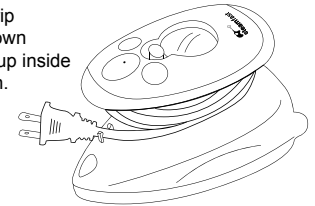

FIGURE 5
1. Turn Temperature Control Dial to "off" (O) position. Unplug power cord.
5. Wrap power cord around base of Hand Grip and secure end in Power Cord Clip as shown (FIGURE 5). Place unit and Measuring Cup inside Travel bag and store in a cool, dry location.